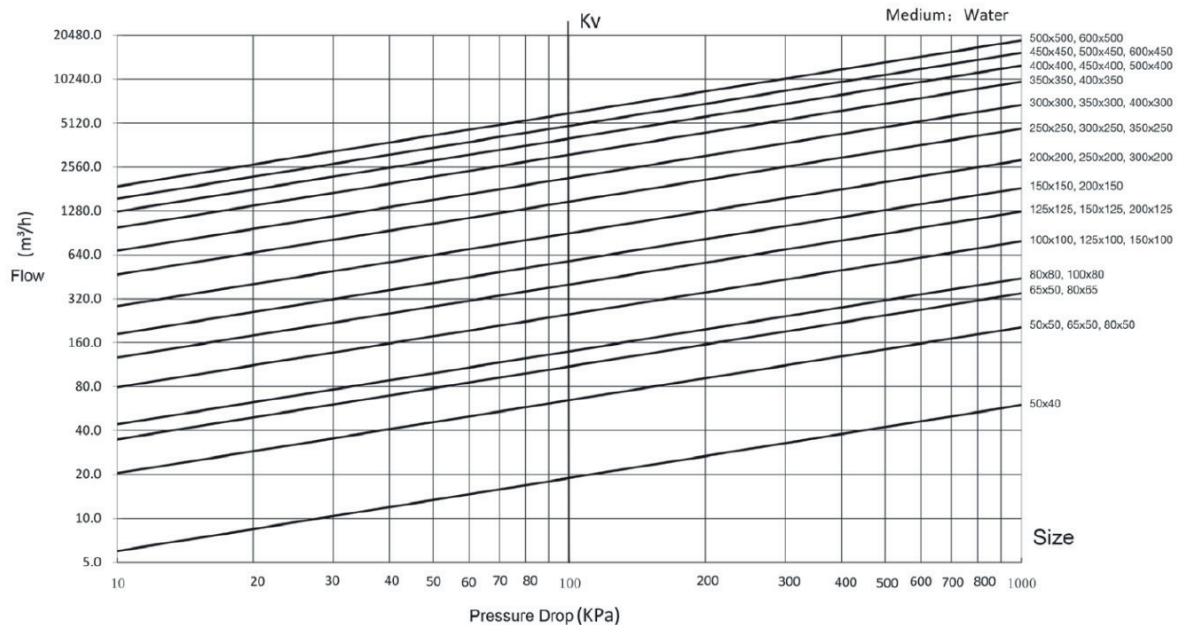

Figure 1
- Albion Valves (UK) Ltd recommend that the installer adheres to the installation requirements as specified by the Water Supply Water Fittings Regulations 1999.
- Make certain the pressure and temperature conditions are within the specified capacity of the suction diffuser being installed. It is the responsibility of the installer to ensure the suction diffuser is suitable for service conditions e.g., temperature, pressure, and service media. Please refer to Figure 1.